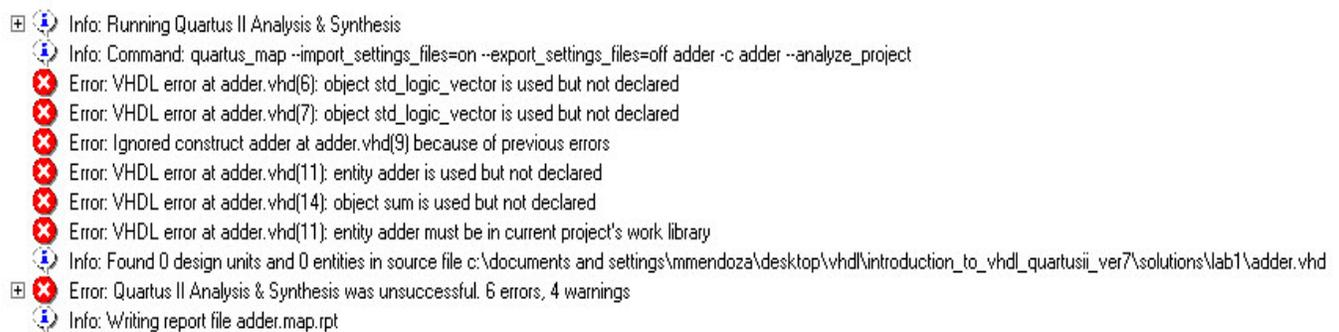

Figure 1-7.
- You should get the following error messages as shown in Figure 1-7.